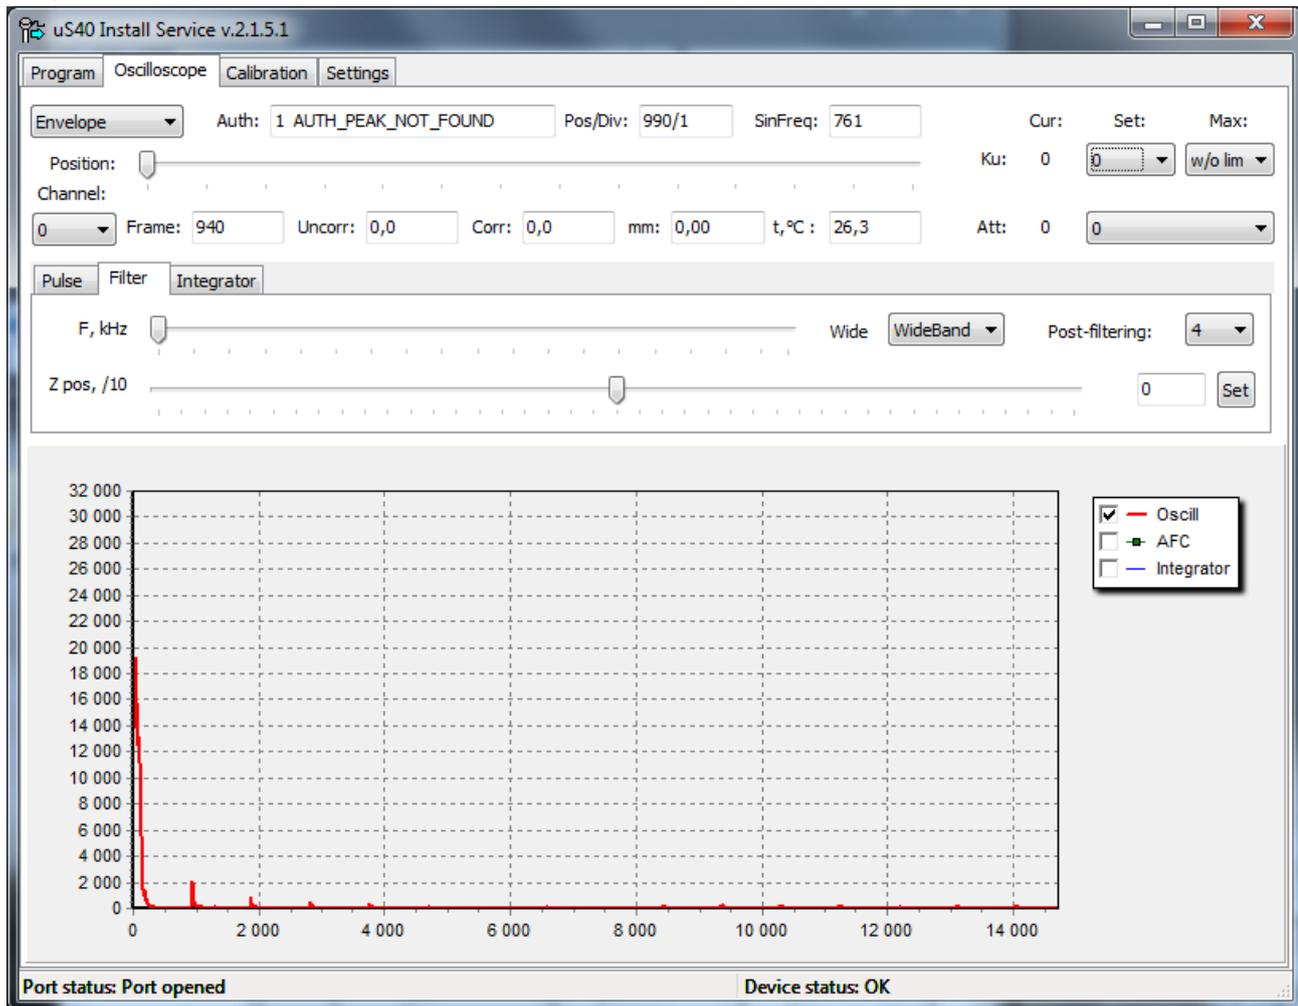

Fig A.13
c) On the “Filter” tab (Fig. A.13) in the “F, kHz” field, select the **WideBand** value (wideband filtering) from the drop-down menu. In the offset field “Z pos,/10” set the value to **0**. Press the “Set” button.